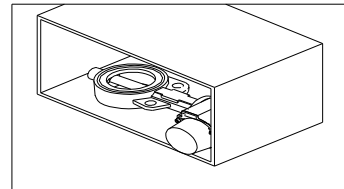

Fig 2.1 Storing the Valve.
- 4.1 Valves are being packed in cartons, boxes or pallets while shipping to the customer. Care should be taken to store them in a suitable place. We recommend storing the valves indoors in a dry and dust free atmosphere (Refer to figure 2.1). While unpacking the valves, check that the valves and any other accessories have not been damaged during transportation. Avoid mechanical damage to the valve seat during storage. Rubber lined valve must not be stored for more than 2 years without installation, unless specified otherwise.